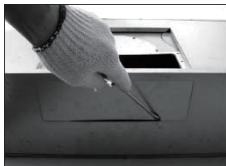

Fig. 4c
- Use a flat-head screwdriver to pry open the rear outlet cover. (Fig. 4c)